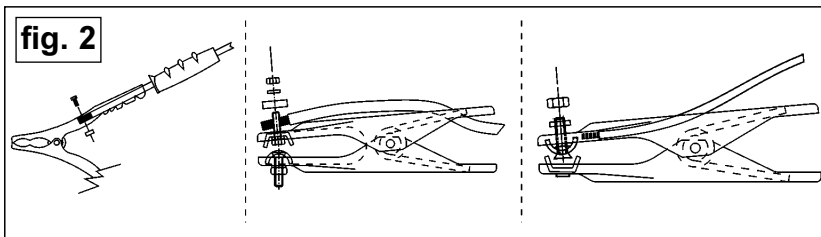

fig. 2
3.3.1 EARTH CLAMP: Refer to fig.2.